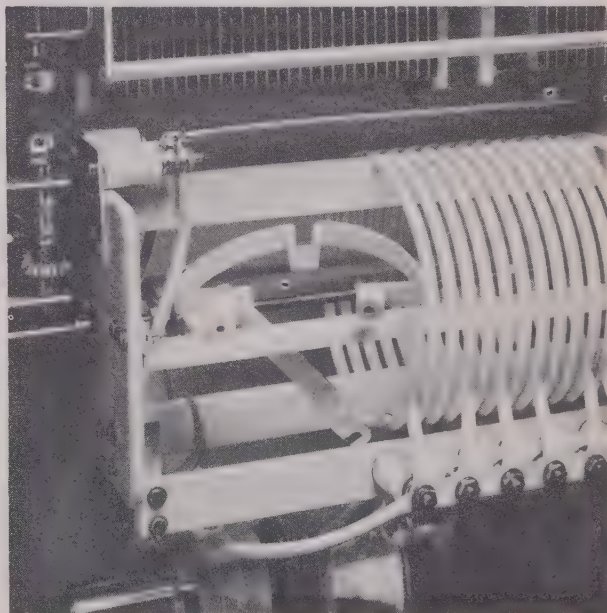

Figure 30. Radio Transmitter Model 96D, antenna coil L-11E, installation step 1
(1) Turn the ANTENNA COUPLING control fully counterclockwise so that the coil carriage is forward against the stop nuts. This aids in placing the coil in position.
(2) Screw insulated bushing to the coil half that has a round spacer affixed to one half.
(3) Insert this half of the coil with its lead down, and placed between threaded shaft and insulated frame. See fig. 30.